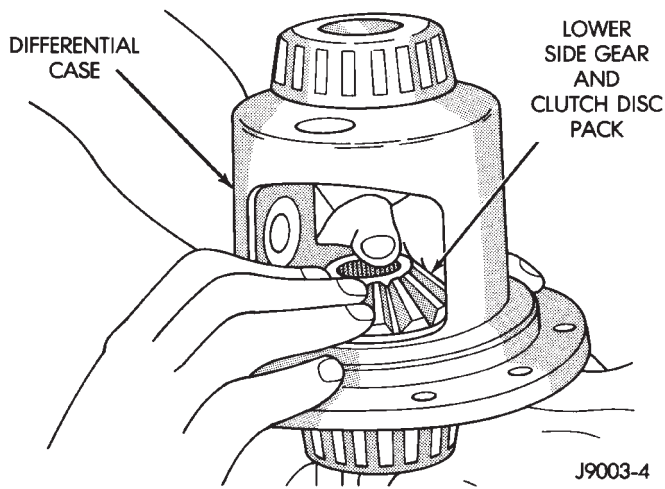

Fig. 14 Clutch Discs & Lower Side Gear Installation
- (5) Position case on axle fixture.
(6) Install clutch pack and side gear in lower bore (Fig. 14). **Be sure clutch pack retaining clips remain in position and are seated in the case pockets.**